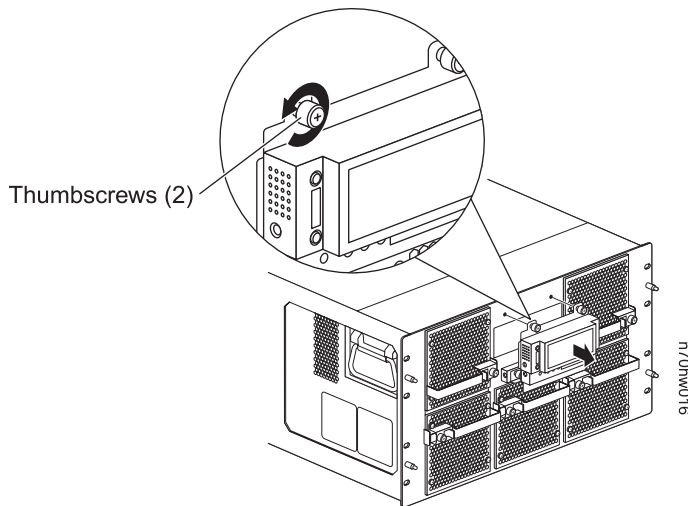

Figure 18. Removing the LED/LCD/CompactFlash module
3. Loosen the two thumbscrews on the top corners of the module, and then pull out the LED/LCD/CompactFlash module. See Figure 18.